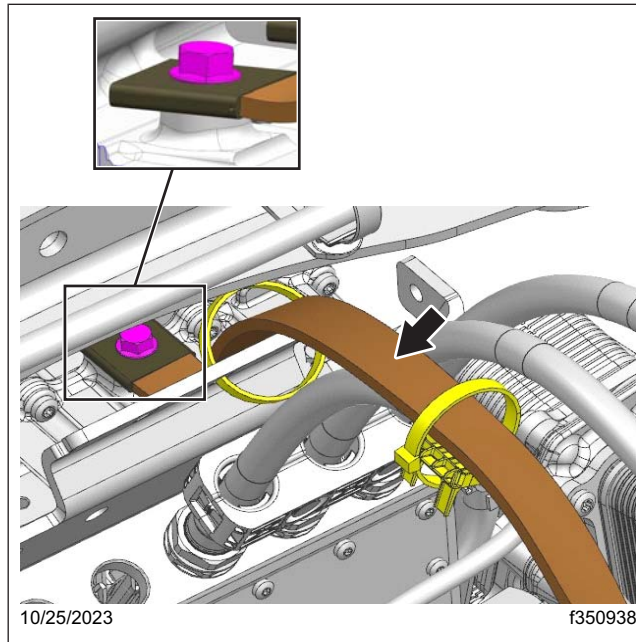

Fig. 12, Flat Grounding Cables Straps
9. Disconnect the flat grounding cables straps from the e-Axle. See Fig. 12.
60. Connect the flat ground cable straps to the e-Axle. See **Fig. 12**.